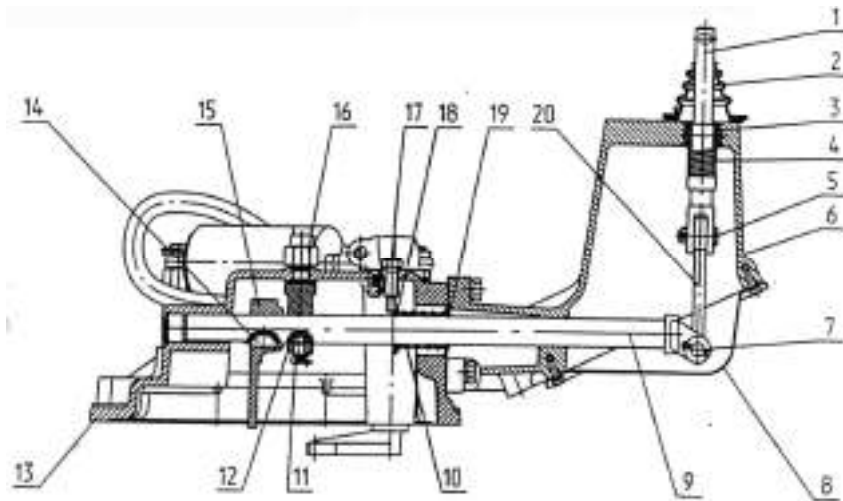

Fig. E-15.3. Gear-shift mechanism:
The **gear-shift mechanism** (Fig. E-15.3) is mounted in the speed-gear assembly, fork member (7) and the control mechanism (14) cover (see Fig. E-15.1).
The shaft (9) with the arm (15) and bushing (12) fitted thereon is installed in the supports of cover (13) and casing (6) (see Fig. E-15.3). The two bushings (18) and spring (10) are installed between the retaining rings (19). The bushing end-faces abut the screw (17) and the casing (6) end-face. This arrangement serves to set the gear-shift lever to neutral. The shaft (9) is coupled with fork (1), with the gear-shift lever fixed thereto through the pins (5 and 7) and lever (20). The fork (1) is located in the casing (6), in the sphere socket (3) and spring-loaded with the spring (4).